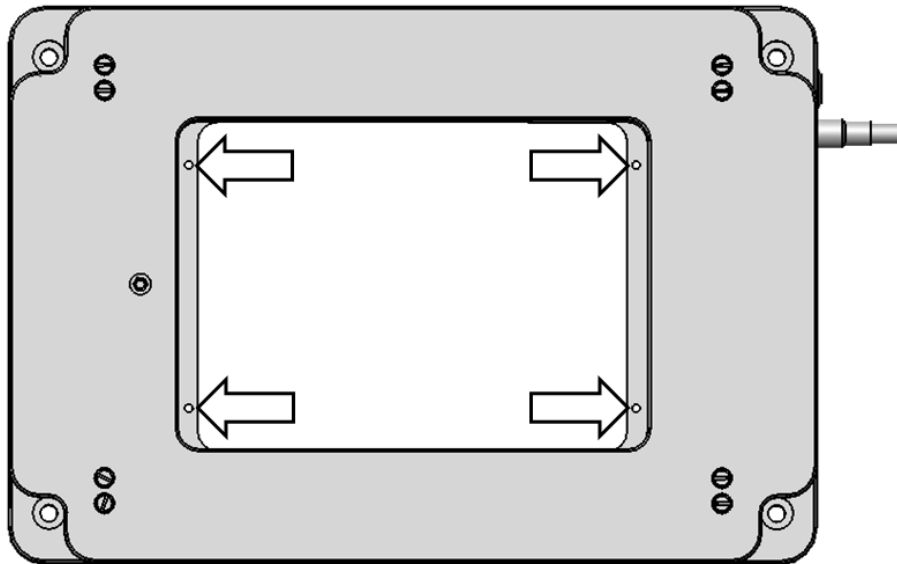

Figure 7: M2 threaded holes in the sample holder mounting plane (p. 9) of the motion platform
2. Place the holder into the aperture of the P-736.ZRx from above, so that the mounting holes in the holder and the sample holder mounting plane (see Figure 7 above) of the P-736.ZRx are in line.
3. Mount the holder with the M2 screws to the provided M2 threaded holes (see Figure 7 above). Pay attention to the specified torque range (p. 23) while doing so.